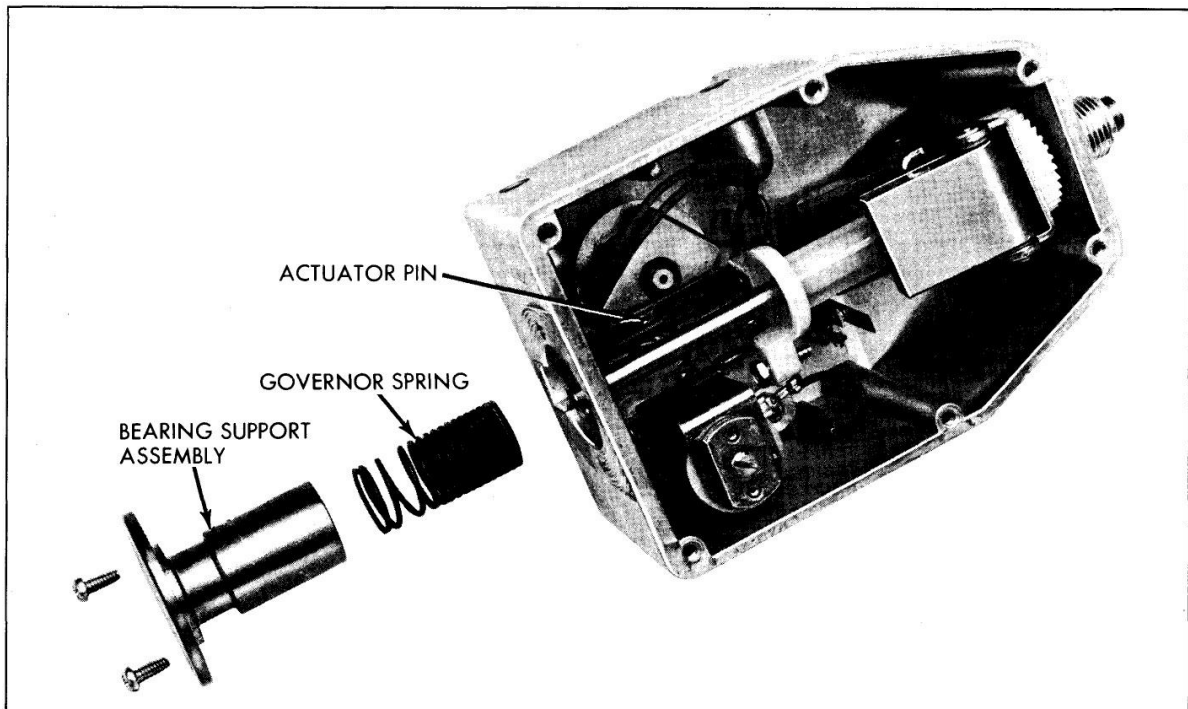
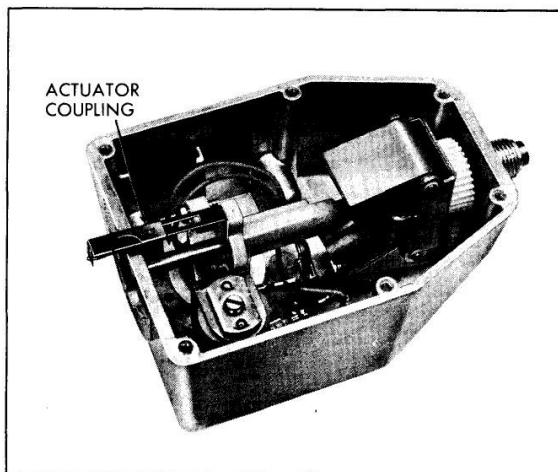

Fig. 15-15 Bearing Support Removal
Fig. 15-16 Governor Assembly Removal
2. Remove two screws securing bearing support, rotate support 180° and slide out (Fig. 15-15).
4. Spread governor weights in an up and down position and pry up on actuator coupling with a screwdriver until pin is disengaged from magnet assembly and can be rotated clockwise (Fig. 15-15). Rotate actuator cup 180° and hook the actuator coupling over the top of regulator housing (Fig. 15-16).